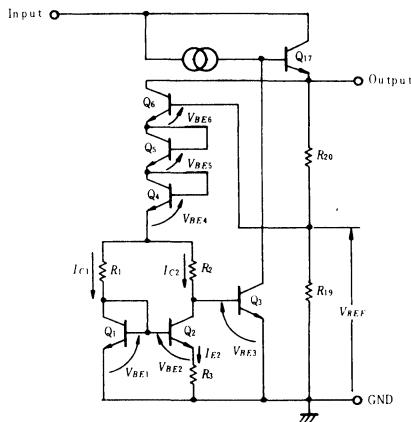

Fig.3 Circuit Generating Reference Voltage
For explaining the part generating the reference voltage, the equivalent circuit shall be shown in Fig. 3. As this figure shows clearly, the difference from the conventional method using zener diodes is that the reference voltage is generated by only the base-emitter forward characteristics of transistors. The reference voltage V_{REF} is;
In equation (6), the first four terms in the right to equal sign are V_{BE} and have negative temperature coefficient. On the other hand, the last term has positive temperature coefficient. Then, give value to R_1 , R_2 and R_3 so that $V_{REF} \approx 5V_\delta V_{REF}/\delta T = 0$. This reference voltage source which utilize the base-emitter forward voltage of transistors has less noise than the conventional ones using zener diodes. The output voltage is as shown in Fig. 3;